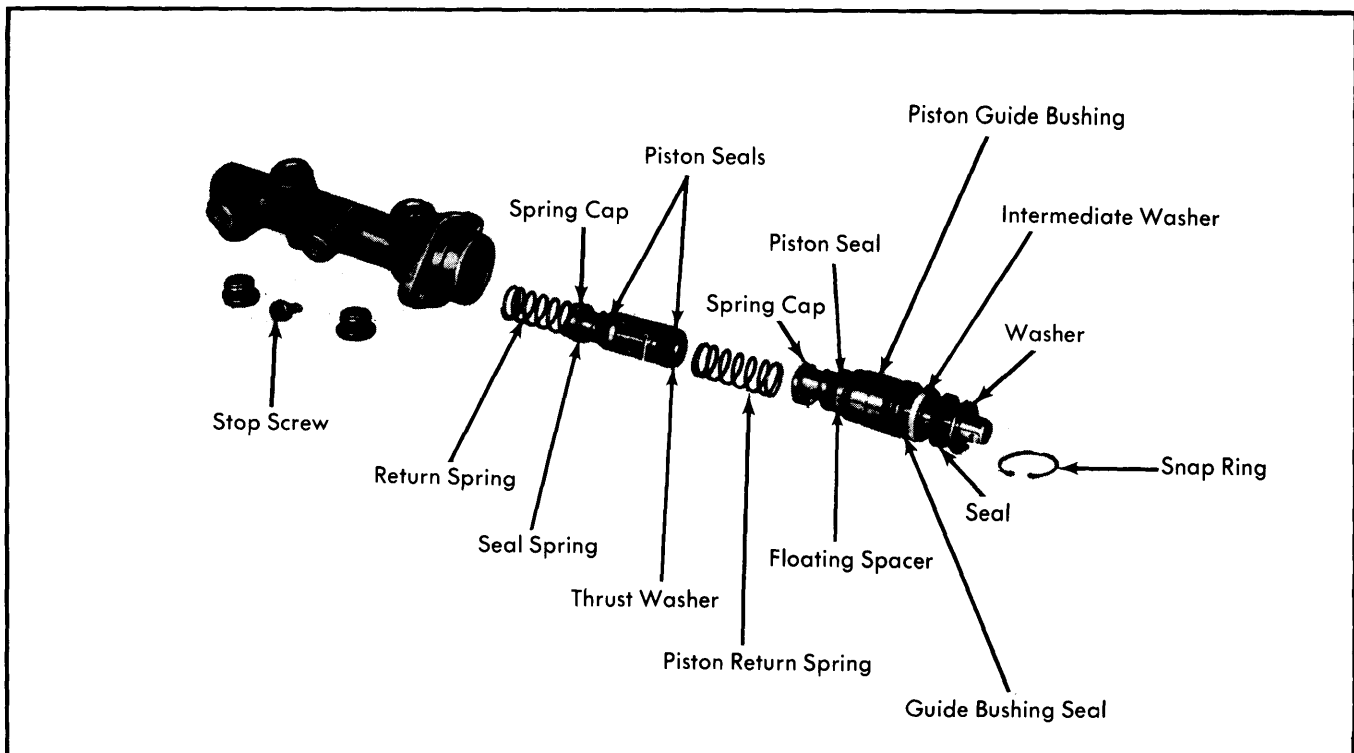

Fig. 3 Exploded View of Master Cylinder Internal Components. Primary and Secondary Pistons are Shown Removed, but Assembled
2) Back out piston stop screw. Remove front piston in assembled state. Separate following components from piston: (Also, refer to Fig. 3)